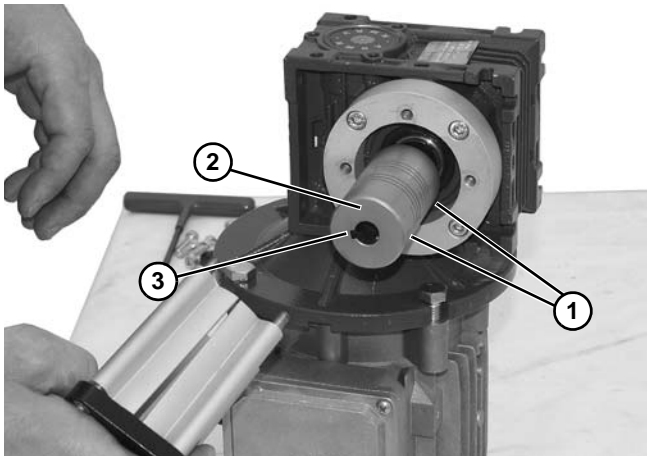

Figure 27
4. Loosen two (2) set screws (**Figure 27, item 1**) and detach coupling (**Figure 27, item 2**) from gear reducer.
5. Remove gear reducer output shaft key (**Figure 27, item 3**).
10. Attach coupling (Figure 27, item 2) to gear reducer shaft. Tighten two set screws (Figure 27, item 1) to 32 in-lb (3.7 Nm).
6. With output shaft key (**Figure 27, item 3**) in keyway, attach coupling (**Figure 27, item 2**) to gear reducer shaft. Tighten two set screws (**Figure 27, item 1**) to 32 in-lb (3.7 Nm).